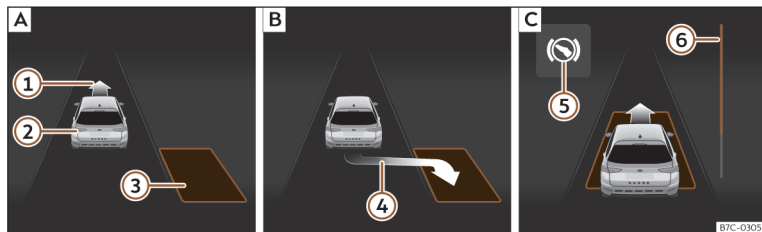
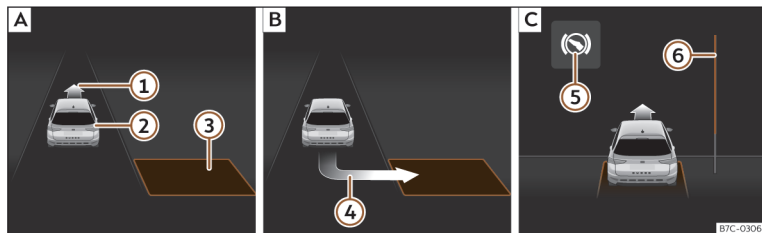

Fig. 176 On the instrument panel display: parallel parking. **[A]** Finding a parking space. **[B]** Parking position. **[C]** Manoeuvring.
Fig. 177 On the instrument panel display: angle parking. **[A]** Finding a parking space. **[B]** Parking position. **[C]** Manoeuvring.
- Look at the display on the instrument panel to see if the space has been detected as “appropriate” and if the correct position for parking has been reached»» **Fig. 176 [B]** or»» **Fig. 177 [B]**. The space is considered
- Reverse until the continuous ParkPilot signal sounds; **OR:** reverse until the indication to move forward appears on the instrument panel display >>> Fig. 176 [C] or >>> Fig. 177 [C]; **OR:** reverse until the **Park Assist finished** message appears on the instrument panel display. The progress bar ⑥ indicates the distance to cover >>> page 260 .
- Press the brake pedal until the parking assist system completes the steering wheel turns; **OR:** until the symbol (S) goes out on the instrument panel screen.
- Move forward until the continuous ParkPilot signal sounds; **OR:** move forward until the reverse indication appears on the instrument panel display. The Park Assist system steers the vehicle forward and back until it centres it in the space >>> Fig. 176 [C] or >>> Fig. 177 [C].
The progress bar >>> Fig. 176 ⑥ and >>> Fig. 177 ⑥ on the screen of the instrument panel displays the relative distance to be covered. The greater the distance, the fuller the progress bar. When driving forward, the content of the progress bar decreases upwards, and when reversing, it decreases downwards.